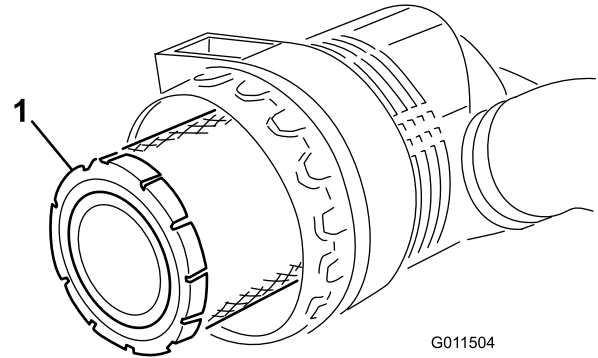

Figure 50
4. Replace the primary filter (Figure 50).
3. Remove the primary filter (Figure 50). Cleaning of the used element is not recommended due to the